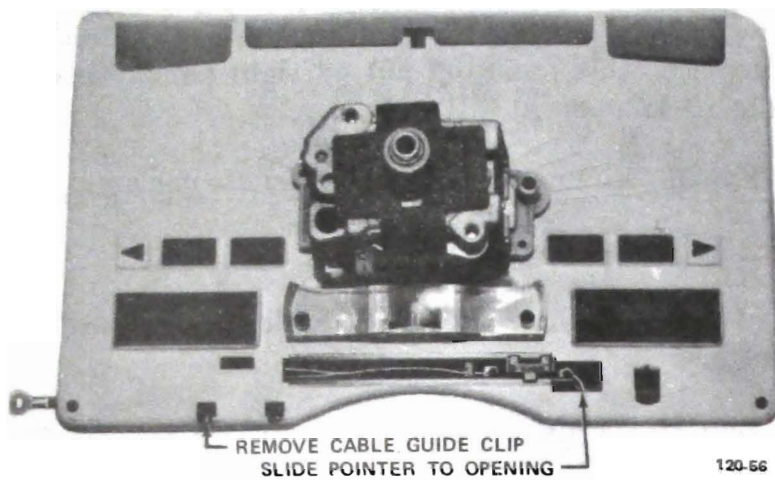

Figure 120-51 Removing Shift Indicator
4. Remove speedometer by removing three (3) screws.
5. Remove cable guide clip from speedo. See Figure 120-51.